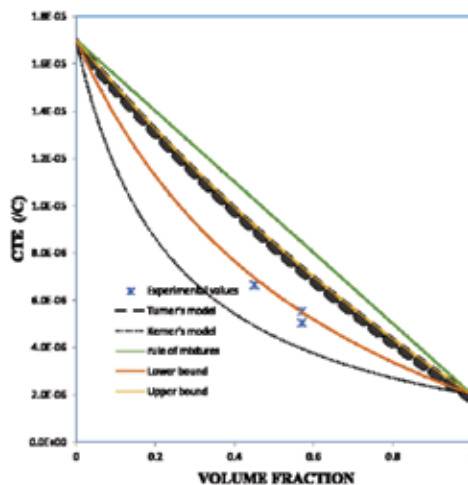

Figure 1 Analytical model showing reduction in CTE with increasing vol%. Experimental data is from Ref [8].
Turner's model [15], which considers the mechanical interactions between the particles, Kerner's model [16] and Schapery's model [17], which takes into account the shape and interactions between the particles, are used here to model the CTE. These numerical models along with experimental results from [8] are shown in Fig. 1. The experimental values match very closely to the lower bounds of Schapery's model, which indicates that the models present a good approximation to the experimentally calculated CTE. The governing equations for Turner's model is given by Equation (1), Kerner's model by Equation (2) and Schapery's model by Equation (3).